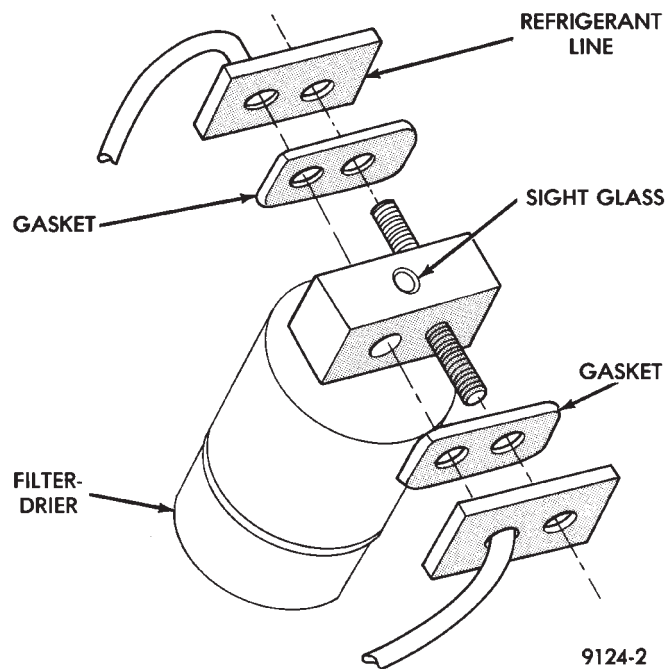

Fig. 4 Filter-Drier—Typical
- (1) Remove the vehicle jack.
- (2) Remove three mounting bolts from the filter-drier.
- (3) Remove the two high pressure refrigerant lines from the sides of the filter-drier assembly (Fig. 4). Then carefully separate lines from filter-drier. Discard the old gaskets.